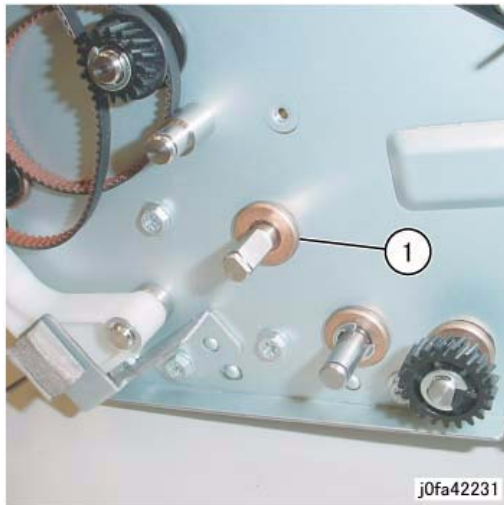

Figure 3 Removing the Bearing
7. Remove the Bearing (Figure 3):